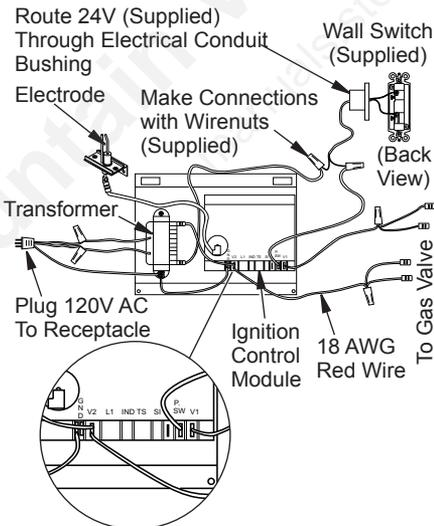
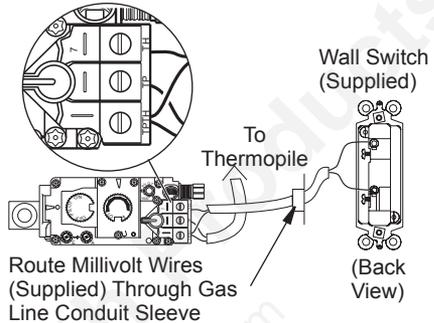

Figure 34 - Wall Switch Wiring Diagram, Electronic Units
Figure 35 - Wall Switch Wiring Diagram, Millivolt Units
Since the (V)DVVF36TPNEA/TSTEA series uses a 24 VAC current supplied from a transformer mounted on the ignition module and is prewired for easy connection to a wall switch (see Figure 34). The (V)DVVF36TPNA/TSTA models use a self generated millivolt current that allows you to activate the gas control valve directly without the use of normal household electricity (see Figure 35). Both versions are supplied with a wall switch kit for ready connection and mounting.
2. Disconnect wall switch wires from terminals marked TH and TPTH (see Figure 35, page 21).
2. If a wall switch was installed, it must be removed from ignition control circuit for remote to work properly. Remove wire nuts from switch connection at ignition control module. Using wire nut, connect transformer (blue) wire to remaining wire connected to control terminal marked P.S.W (see Figure 34, page 21).